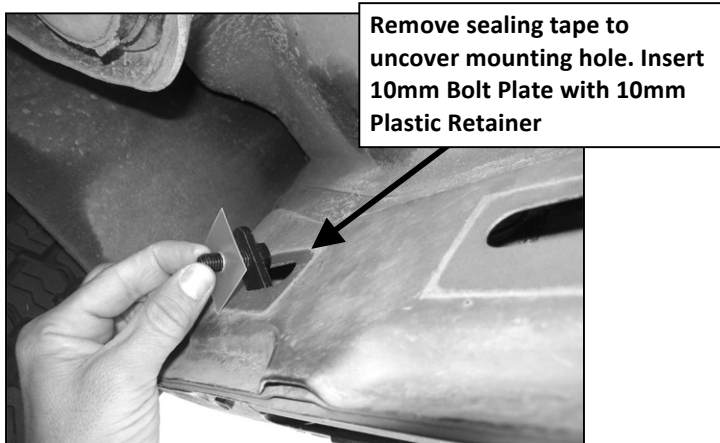
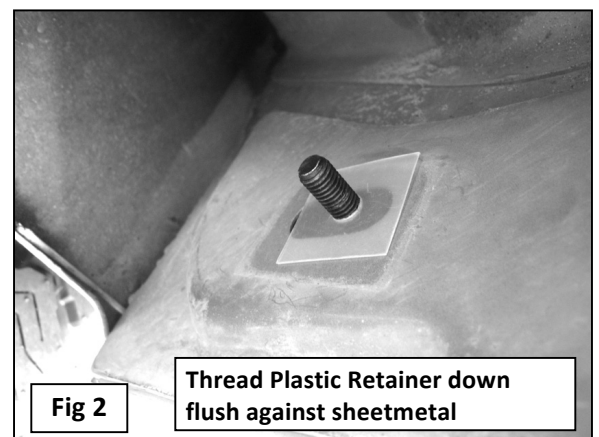

Fig 1
Fig 2
5. Remove the tape covering the factory hole in the back side of the rocker panel near the Mounting Bracket. Thread (1) Plastic Retainer part way onto (1) 10mm x 35mm Bolt Plate. Insert the Bolt Plate into the factory hole on the rocker panel, **(Figure 1)**. Hold the Bolt Plate in place with one hand and continue to thread the Plastic Retainer down against the sheetmetal until it holds the Bolt Plate in place, **(Figure 2)**. **IMPORTANT:** The Plastic Retainer is designed to prevent the Bolt Plate from falling into the body cavity and to aid in installing the Bracket.